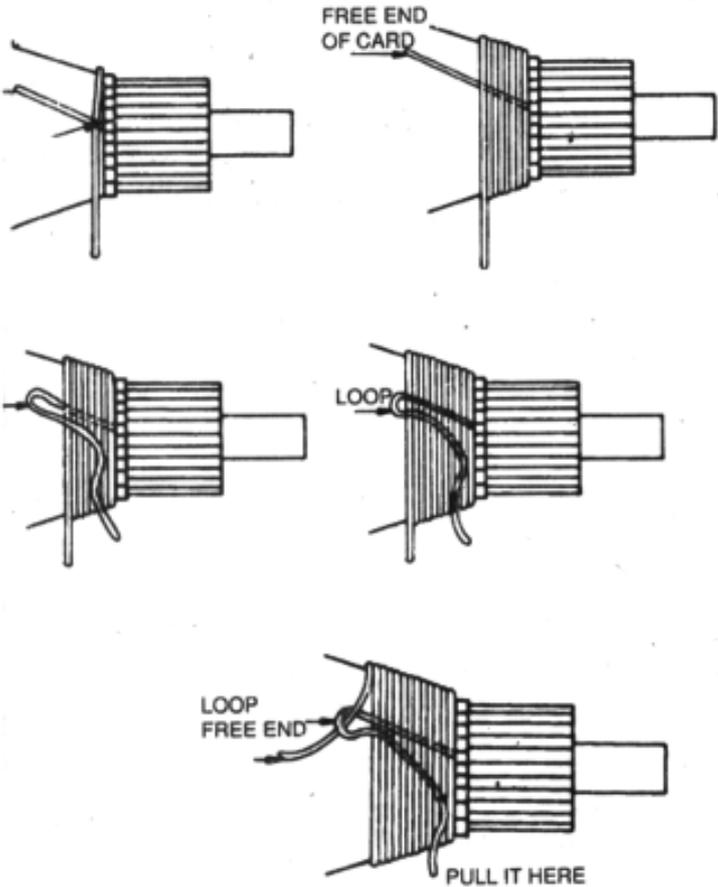

Fig. 6.10
**Cord bands :** The procedure for making a cord band on an armature is shown in Fig. 6.10, and the following directions should be observed. Use a proper size of banding cord heavy for larger armatures, light for smaller armatures. Start at the end nearest the commutator and wind several turns in layers, allowing about 150mm long cord at the beginning to be free. Bend the cord in the form of a loop.